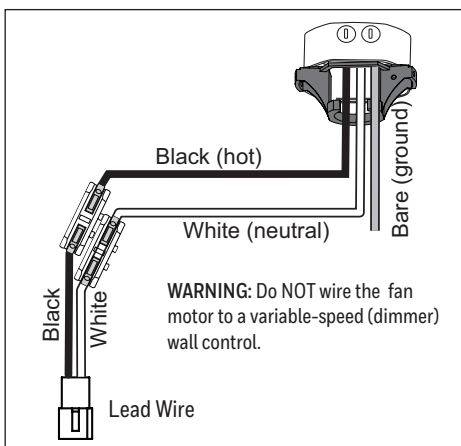

Figure 5.1
1. Use the push-in connectors to connect the lead wire to the supply wires from outlet box according to the wiring diagram and the following instructions (Figure 5.1):